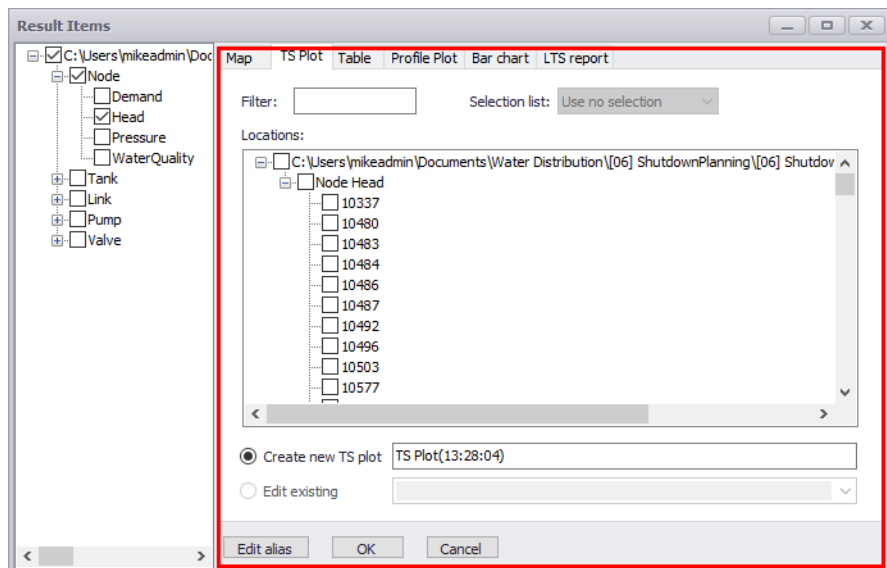

Figure 20.20 The TS Plot tab on the Result Items dialog
- **Time series plot.** This tool launches the 'Result Items' dialog (Figure 20.20). It is only relevant for 1D result files. In this dialog: